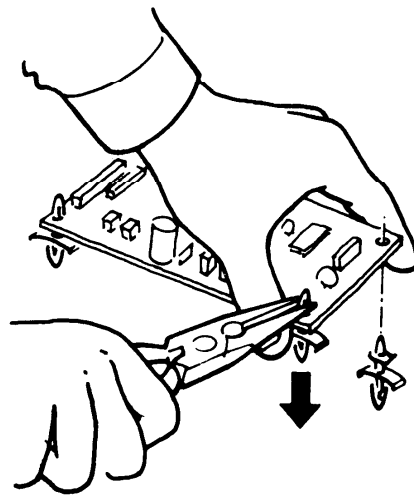

Fig. 7
- ③ Use long-nose pliers from the front of the PCB to unlock the spacers, and remove the spacers by pushing them to the rear of the PCB. Fig. 7